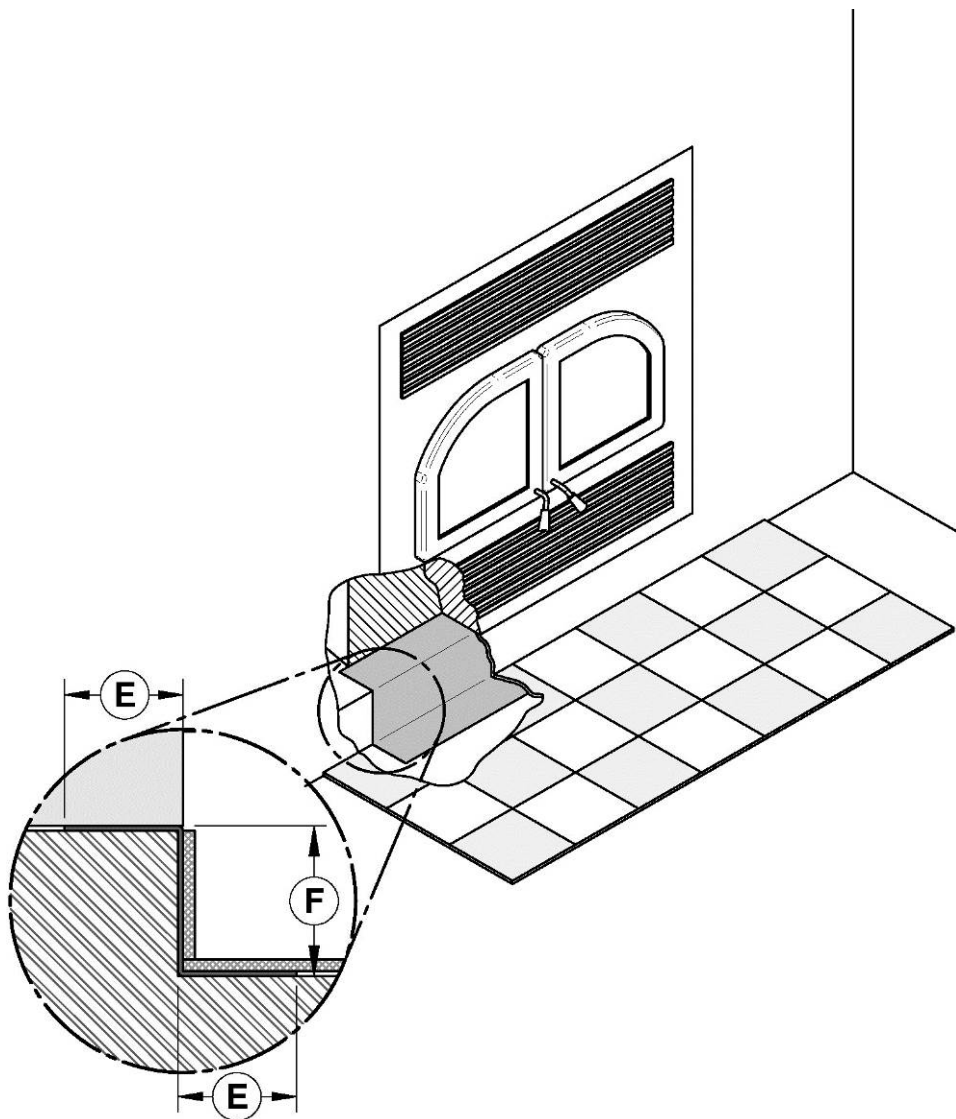

Figure 16 : Raised base installation of 4"
In the case where (F) would be equal to 4", it is suggested that the sheet metal between the base of the fireplace and floor be in one piece. See **Figure 16: Raised base installation of 4"**.